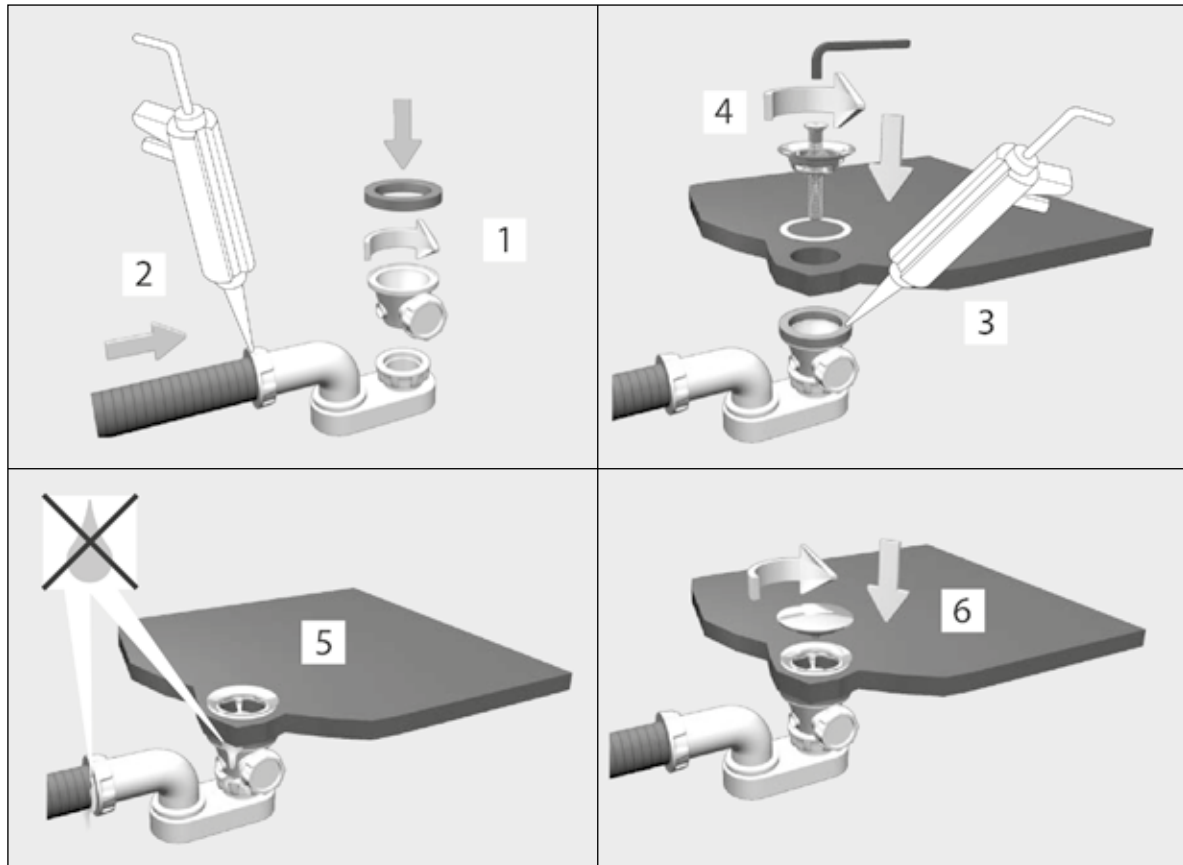

Fig.3
- Install the drain kit on the tub as shown in Fig. 3, following the instructions of the manufacturer of the drain kit.